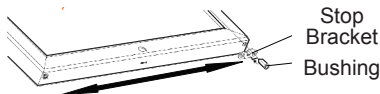

Figure 8
- On bottom edge of door, transfer door stop bracket and bushing to holes on opposite side. (See Figure 8.)